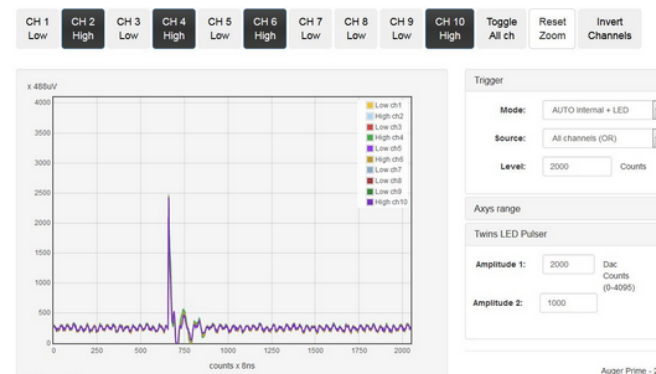

Fig. 14: The Web-Oscilloscope showing the LED pulses on different channels
- In 'Twins LED-Pulser' type '2000' into 'Amplitude 1' (see figure 14)